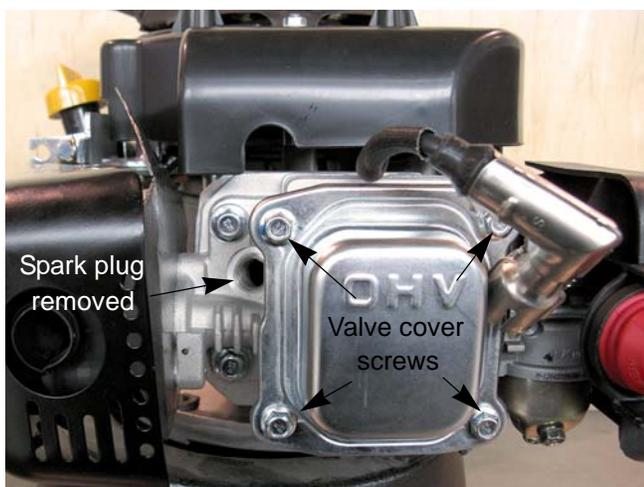

Figure 9.2
2. Remove the spark plug using a 13/16" or 21mm wrench. See Figure 9.2.
4. Remove the four screws securing the valve cover using a 10mm wrench. See Figure 9.2.